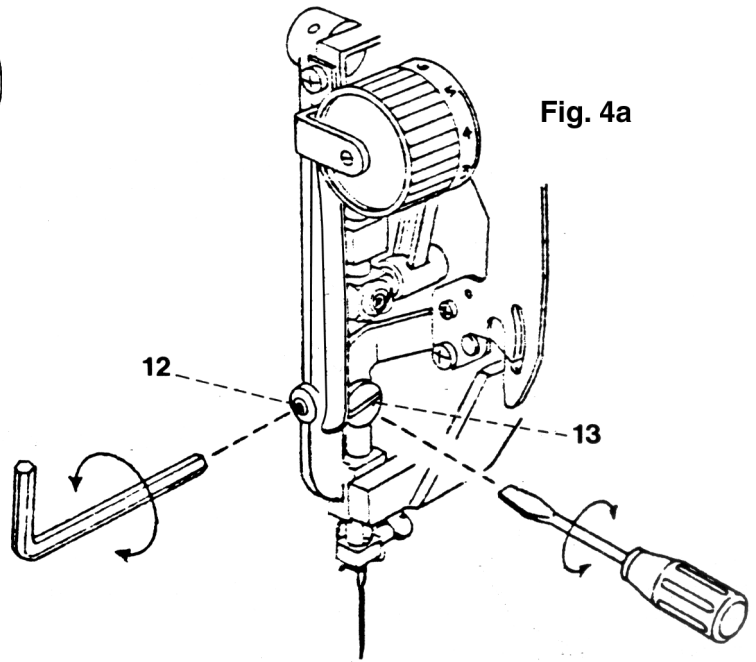

Fig. 4a
- Loosen screw 12 slightly with a 2.5 mm Allen key (fig. 4a).